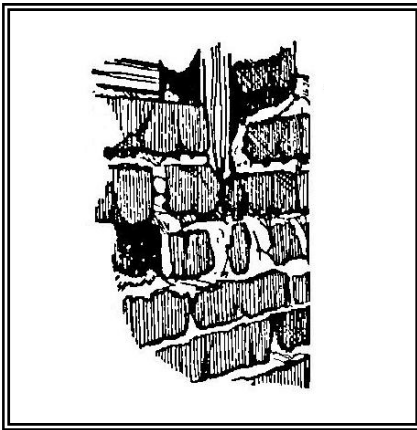

Figure 21, Masonry Damage
- ◆ **Moisture.** Brick and stone are durable but they can deteriorate over time (see Figure 21). Most often, water infiltration is responsible. Moisture can enter through the top of a wall or where the wall meets the roof. Check your roof, flashing, and wall copings periodically for soundness. Gutters and downspouts should also be inspected periodically for leakage.
Beveled, stained, leaded and etched glass are all forms of decorative glass. Glass decoration is often covered up. Look for it in transoms or behind plywood window covers (see Figure 21). Sagging means that the glass and frame will need to be reinforced with a brace. Leaded or stained glass can have problems. The metal between the glass pieces, called the "came," could be either zinc or lead. Always use the same metal when making repairs.